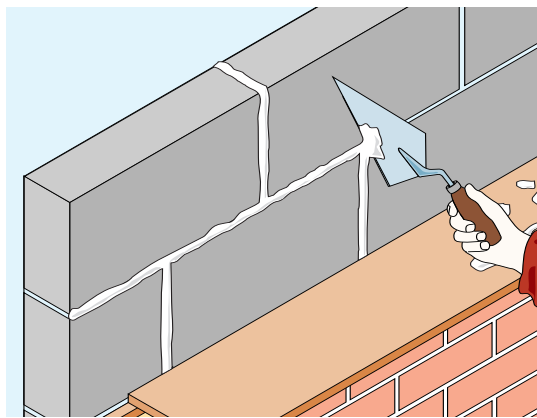

Figure 5 Use of cavity board
- Do not allow mortar to drop into the cavity. After each section of the inner leaf is built, excess mortar should be removed from the cavity face and mortar droppings cleaned from exposed edges of the installed board, before installation of the next run of boards. Use of a cavity board is recommended to protect board edges and make cleaning easier. Also, a cavity batten will protect the installed boards and help to keep the cavity clean as the outer leaf is built up (see Figure 5).